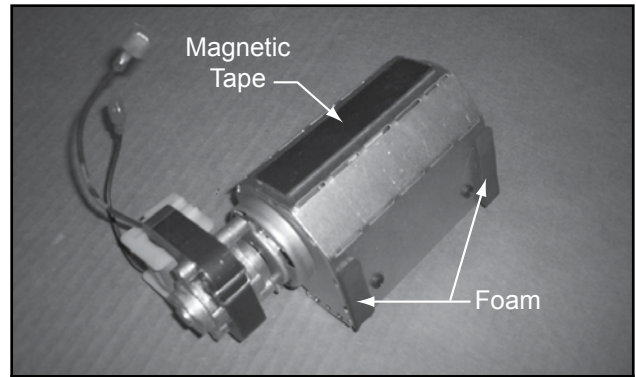

Figure 4
- Apply magnetic tape and foam to fan bracket as shown in Figure 4.